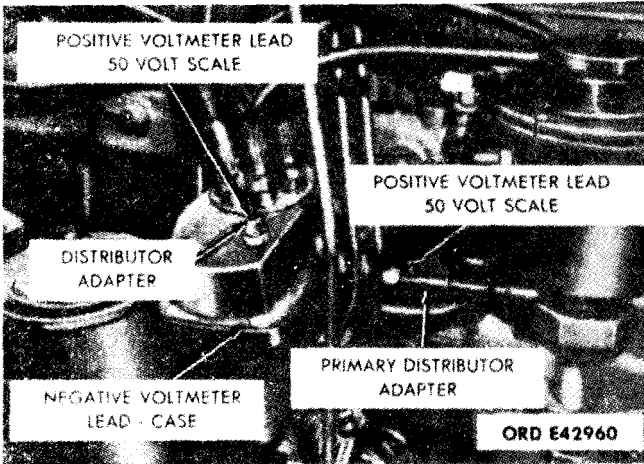
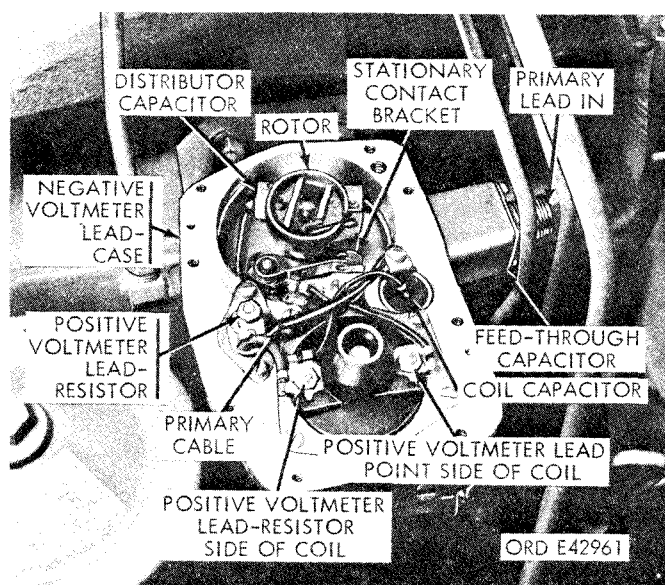

Figure 2-35. Ignition circuit test
Figure 2-37. Distributor with cover removed.
(1) Disconnect the primary wire at the distributor and insert the primary ignition adapter. Unscrew the plug from the top of the distributor and insert the distributor adapter (fig. 2-35).
(2) Place the voltage selector in the 50-volt position and ground the negative (-) lead.
(3) Connect the positive (+) lead to the primary adapter; turn on the ignition switch. The meter should read battery voltage. (If voltage is present, skip the ignition switch checks, since this indicates that the ignition switch is functioning.)
(3) Place the voltage selector in the 50-volt position and ground the negative (—) lead.
(4) Replace the ground cable on the battery. The meter should read battery voltage.
(5) If voltage is present, remove the ground cable and connect the No. 10 wire to the switch.
(6) If no voltage is present, go to the generator regulator and disconnect the battery side of the regulator.
(7) Connect the voltmeter lead to the A pin of the disconnected plug on the harness.
(8) With the battery ground strap connected and the negative (—) lead of the meter connected to ground, the battery voltage should show on the meter.
(9) If voltage is present, take a small jumper lead and connect it from pin A on the harness to pin C. (Make checks a, b, c, and d above and below.) If voltage is now present, replace the regulator (para 2-132). If no voltage is present, check the wiring for breaks or shorts and repair as required (para 2-26).
*c. Distributor Tests, Cap On (Fig. 2-35).*
(1) With the voltage selector on the 50-volt scale, ground the meter to the side of distributor.
(2) Connect the positive (+) lead to the distributor adapter (fig. 2-35).
(3) Turn on ignition switch.
(4) Observe the voltmeter. The voltmeter should read low voltage or battery voltage, depending on the distributor point position.
(5) If the points are open the voltmeter should read battery voltage.
(6) If the points are closed, the voltmeter should be on zero or have a maximum voltage of three-tenths of a volt.
(7) If the voltmeter reads battery voltage, but will not drop when the points close, the points are defective. Remove and replace the points or the distributor.
(8) If the voltmeter will not read battery voltage when the points are open, distributor components are defective. Remove and replace the distributor or check it in accordance with the following procedure.
*d. Distributor Test, Cap Removed (fig. 2-37).*
(1) Remove the distributor cap with the ignition switch off.
(2) Ground the negative (—) lead of the meter to the case selector in the 50-volt position.
(3) Use a short jumper lead, and connect it across the points.
(4) Turn on the ignition switch.
(5) Connect the positive (+) lead of the meter to the top of the resistor. The voltage reading should be 24 volts. If not the primary circuit or feed-through capacitor is defective.
(6) Connect the positive (+) lead of the meter